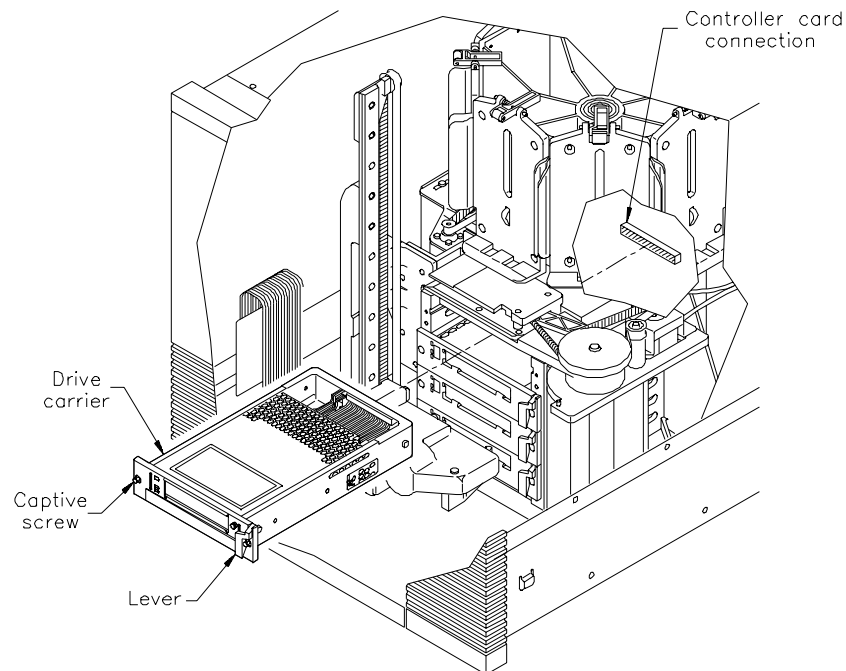

Figure 5-1 Removing and installing a tape drive
1. Using a flat-blade screwdriver, loosen the two captive screws on the drive carrier faceplate (see Figure 5-1).
1. As shown in Figure 5-1, insert the tape drive into the slot with the lever to the right. Make sure the lever is closed. The tape drive should slide easily toward the back.